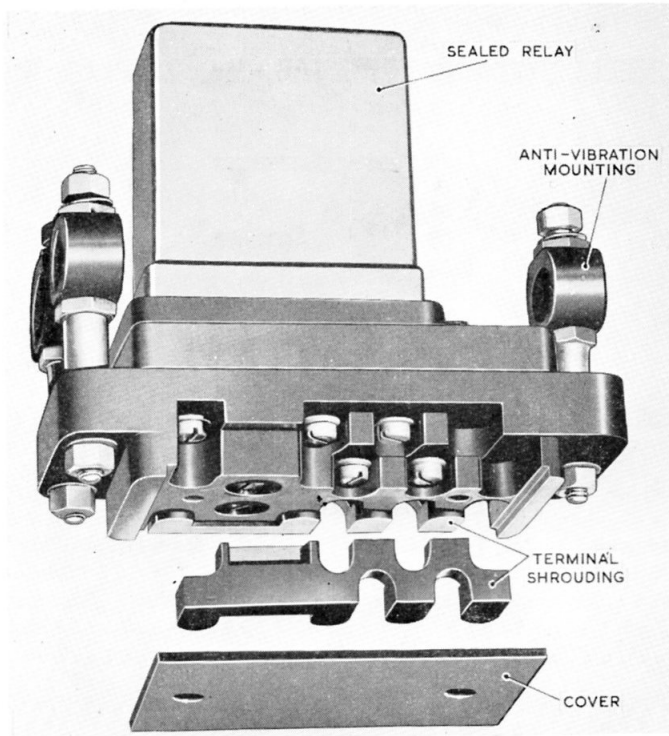

Fig. 1. Magnetic switch, Type 16B, No. 2
2. This switch (*fig. 1*) consists of a sealed relay, Type M1096 (Inter-Service Ref. Z530031) secured to a moulded Bakelite base plate having shrouded 6 B.A. terminals. The switch is designed for panel mounting, and is provided with three rubber anti-vibration mountings incorporating 4 B.A. fixing studs.